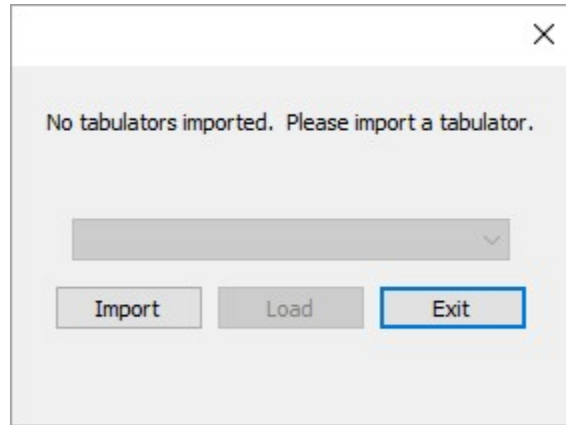

Figure 2-2: Import new project
7. If a tabulator is not already set as the active project, a project selection window may appear. Select the desired tabulator from the drop down, and click **Import**. See Figure 2-2